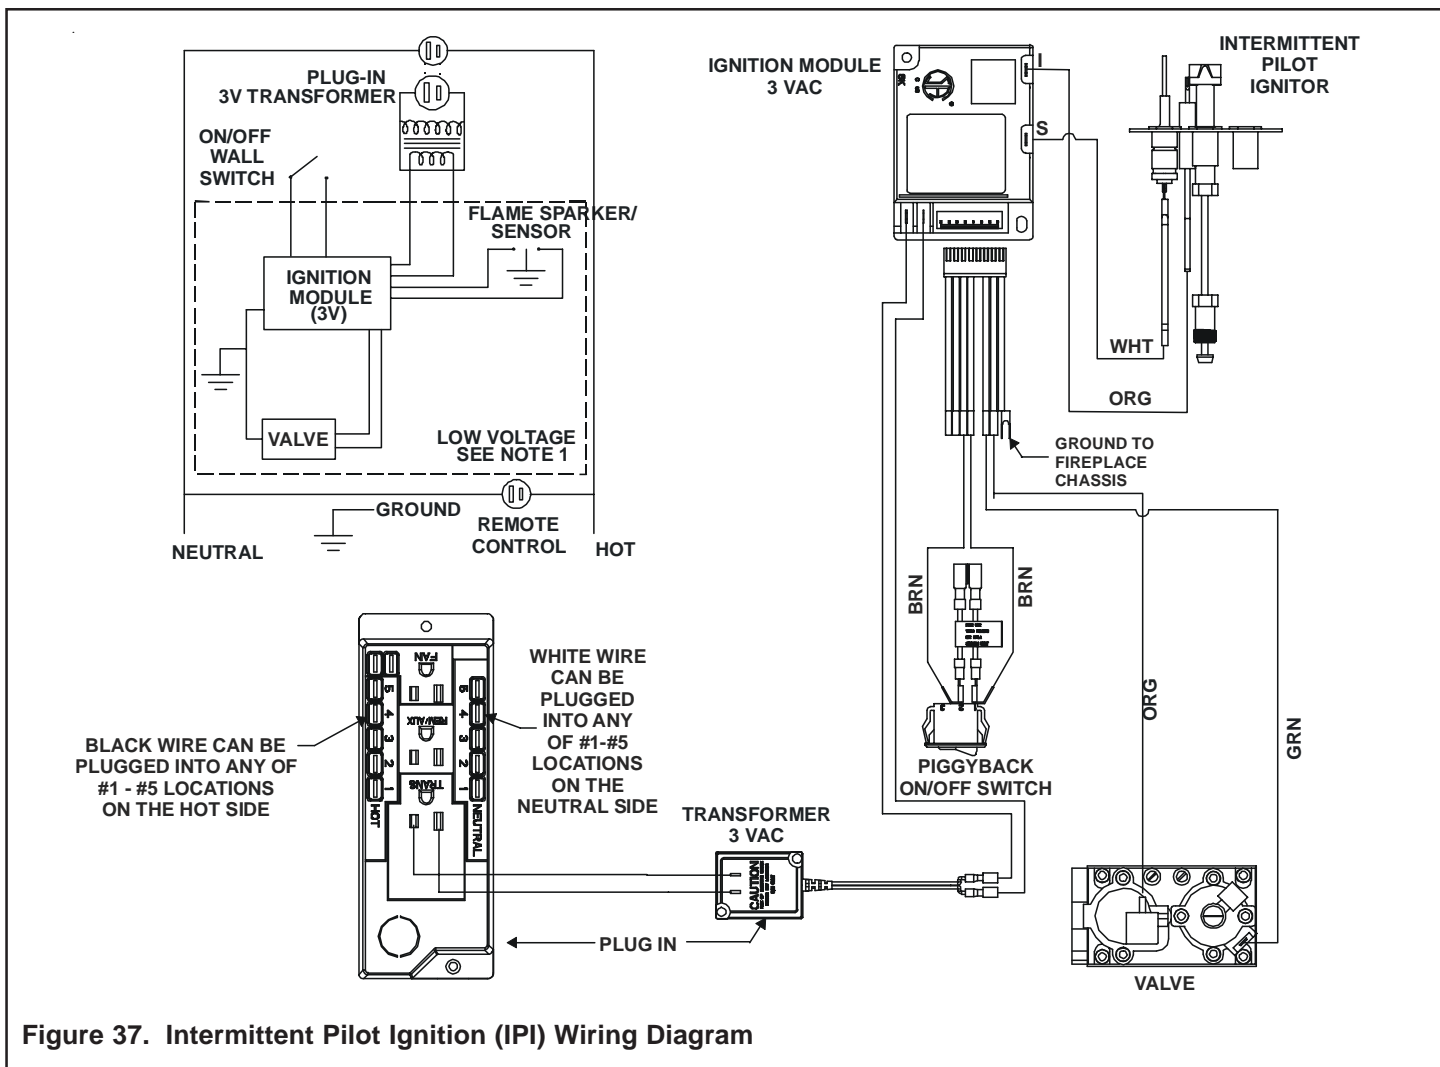

Figure 37. Intermittent Pilot Ignition (IPI) Wiring Diagram
- ➔ This appliance comes with a 3 volt transformer. The transformer plugs into the junction box and the two leads plug into the green control module (see Figure 37).